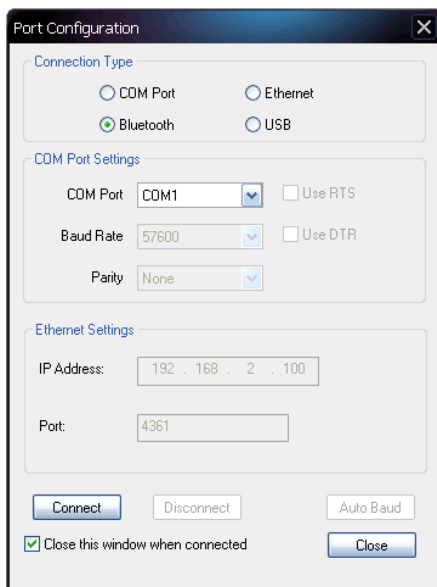

Figure 58: Port Configuration – Bluetooth
13. Click the *Connections* button on the Shortcut bar to open the *Port Configuration* dialog box (see Figure 58).
Refer to Figure 58 for the steps below: